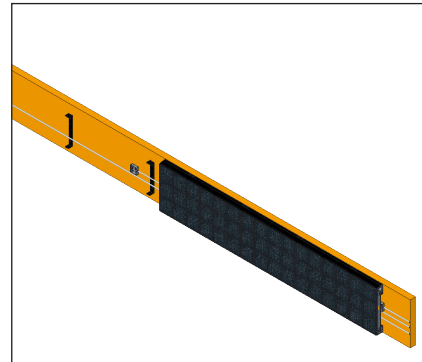

Figure 5: Slide Display Section onto C-Clips
2. Once the clips are level and secure, slide the display onto the clips through the gap in the chassis. Refer to **Figure 5**.